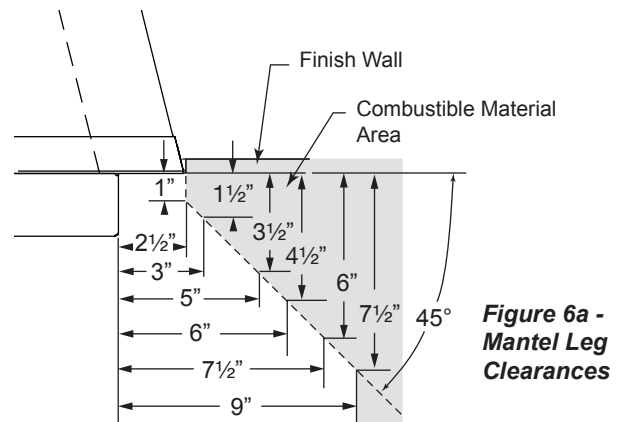

**Figure 4 - Sidewall and Ceiling Clearances**
The dimensions shown in Figures 4, 5 and 6 and defined in the fireplace manufacturer's instructions are *minimum clearances* to maintain when installing this heater. Left and right clearances are determined when facing the front of the heater.
**Sidewall and ceiling clearances:** The clearance from the inside of the appliance to any combustible adjacent wall should no be less than 9". *Figure 4*
**Ceiling clearance:** The ceiling must be at least 42" from the top of the firebox opening. *Figure 4*